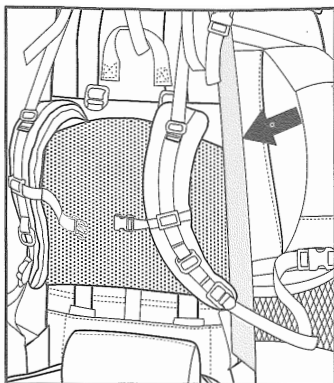
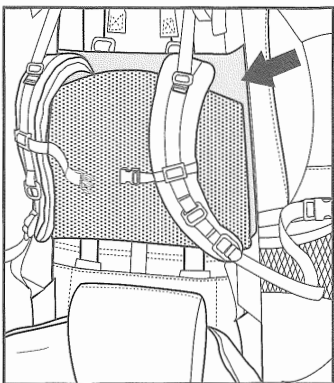

Figure 2D
Figure 2E
- I. Undo the Velcro side flaps (Figure 2D), and then flip the side flaps under the sliding panel to prevent re-Velcroing (Figure 2E).